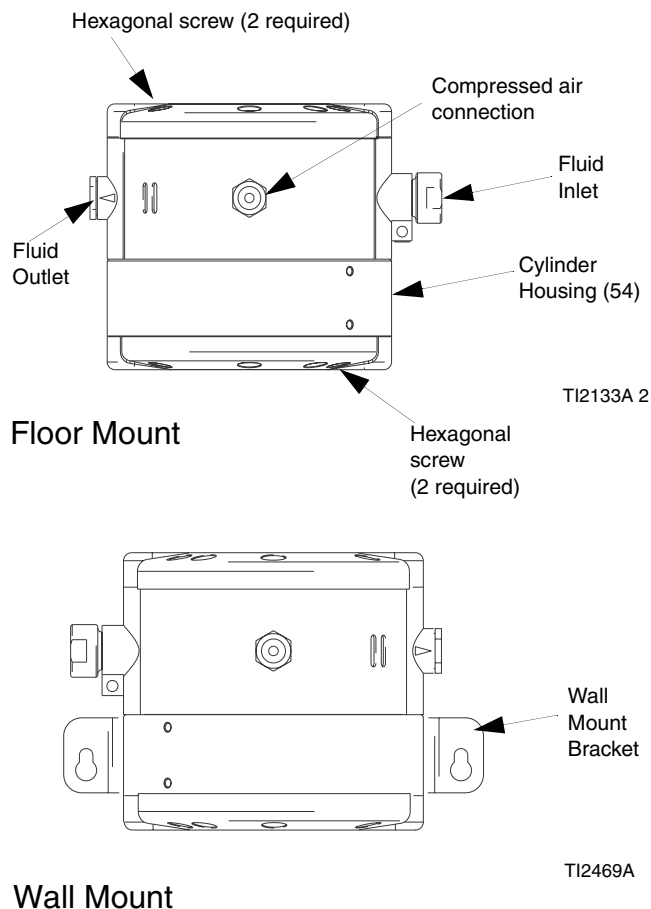

FIG. 1. Mounting the Pump
- The pump must be mounted horizontally as shown in FIG. 1. Be sure that the pump is level in all directions and that the cylinder housing (54) is positioned on the bottom. See FIG. 1.